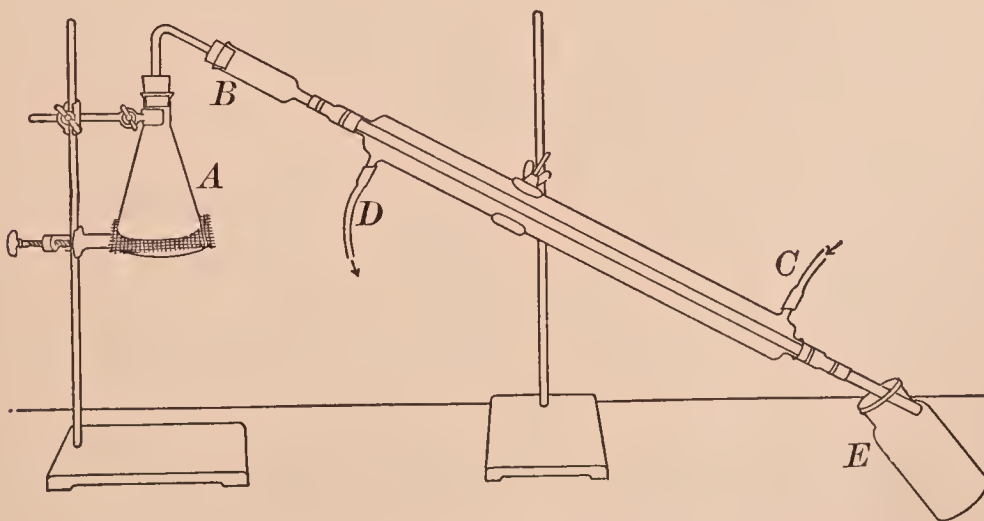

FIG. 30. — Liebig condenser arranged to distil water
**APPARATUS.** — Liebig condenser, etc., as in Fig. 30.
**I. Preparation.** — Fill the flask *A* half full of the water containing the three impurities mentioned above, add a few short pieces of glass tubing to insure even boiling, and connect with the condenser at *B* as shown in Fig. 30. Attach